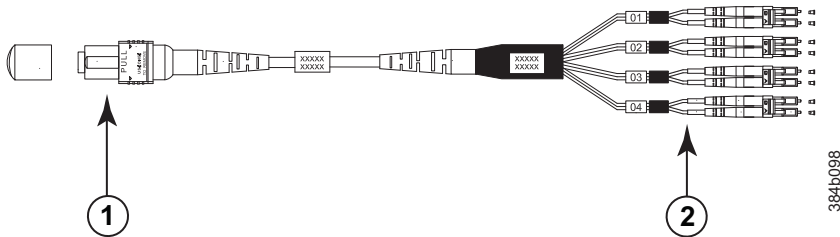

Figure 18. QSFP-SFP/LC break-out/split-out cables
- QSFP-SFP/LC break-out/split-out cables (Figure 18 on page 36)